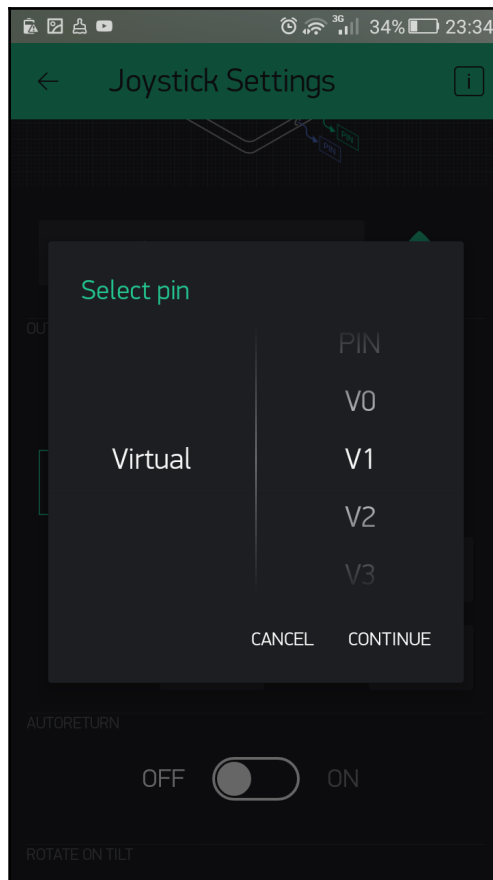

Figure 2.27: Selecting a virtual pin
10. Set the virtual **PIN** to **V1** and set **AUTORETURN** to **OFF** (Figure 2.27):